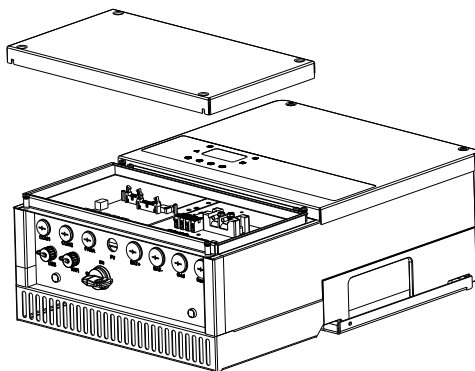

Fig.6-2 Internal cable connection part
Step 2: Remove the 4 cover screws and the cover as shown in Fig.6-2.